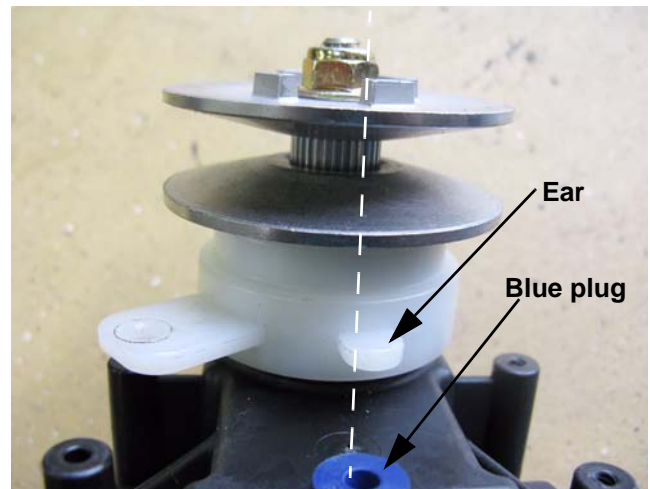

Figure 4.56
10. On reassembly, orient the speed control cam and bearing so that the small ear on the cam is just past the blue oil fill plug with the cam in the relaxed position (sheaves spread). See Figure 4.56.